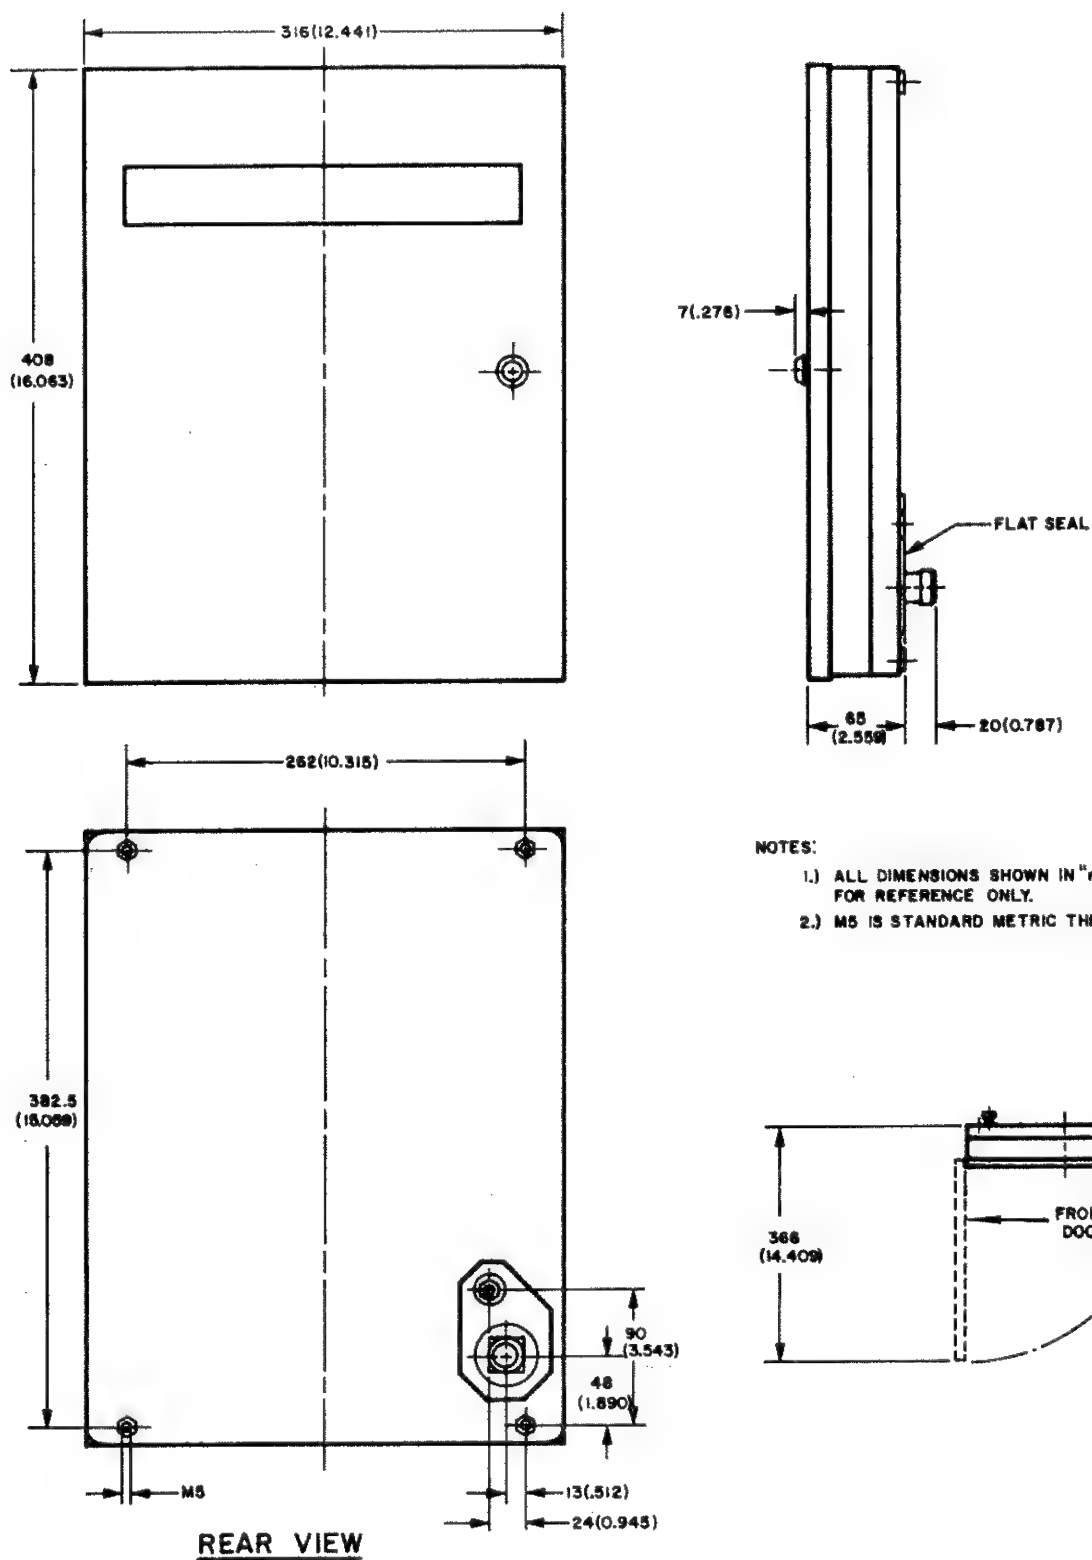

Figure 7-2. TAM 2.01 (Fixed TAM) Outline Drawing
- * Figure 7-2. TAM 2.01 (Fixed TAM) Outline Drawing